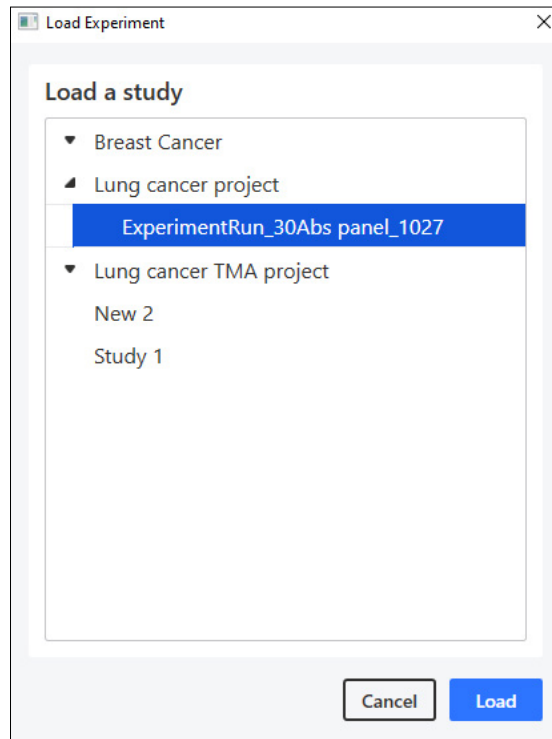

FIGURE 4-19: Load a Study Window
1. Select the **Load** button on the Main Screen (see FIGURE 4-19).